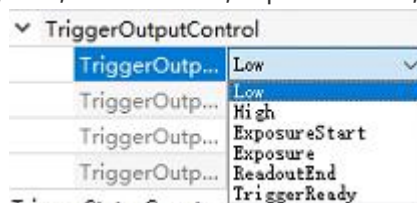

Figure 5-17
- (2) TriggerPort: Used to select the input port for the external trigger signal. Available ports include Port1, Port2, Port3, and Port4 (a total of four interfaces).
- (3) TriggerPortEnable: Enables or disables trigger output signals. Port2, Port3, and Port4 can be controlled individually; Port1 does not support this setting.
- (4) TriggerDirectionSelect: Read-only. Automatically displays TriggerIn or TriggerOut based on the TriggerPort configuration.
- (5) TriggerLevelSelect: User trigger signal selection, supporting TTL, LVDS, and RS422/RS485.
- (6) TriggerInputControl: Trigger input settings module, configurable only when TriggerDirection is set to TriggerIn.
- (7) TriggerOutputControl: Trigger output settings module, configurable only when TriggerDirection is set to TriggerOut.
- TriggerOutputSignal: Trigger output signal selection. As shown in Figure 5-17, it supports 6 types of signals: High, Low, ReadoutEnd, ExposureStart, Exposure, and TriggerReady.